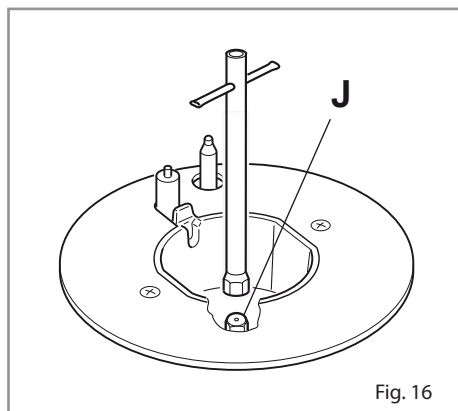

Fig. 16
- Using a wrench, substitute the nozzle injectors "J" (Fig. 16) with those most suitable for the kind of gas for which it is to be used.